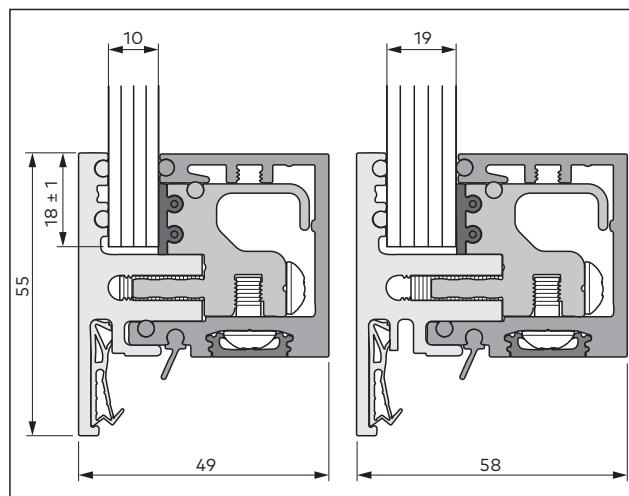

Fig. 11 Dimensions of the mounted door frame with side panels of different thicknesses
- Glass bite in the door frame 18 mm ± 1 mm (Fig. 11)